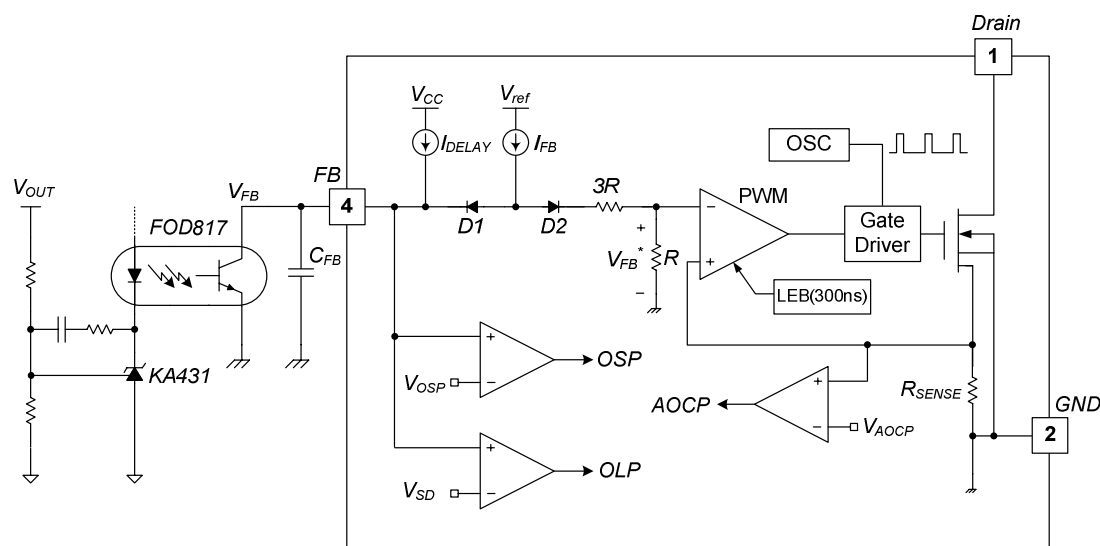

Figure 18. Pulse Width Modulation Circuit
**3. Feedback Control:** This device employs current-mode control, as shown in Figure 18. An opto-coupler (such as the FOD817) and shunt regulator (such as the KA431) are typically used to implement the feedback network. Comparing the feedback voltage with the voltage across the  $R_{SENSE}$  resistor makes it possible to control the switching duty cycle. When the reference pin voltage of the shunt regulator exceeds the internal reference voltage of 2.5V, the opto-coupler LED current increases, pulling down the feedback voltage and reducing drain current. This typically occurs when the input voltage is increased or the output load is decreased.
**3.1 Pulse-by-Pulse Current Limit:** Because current-mode control is employed, the peak current through the SenseFET is limited by the inverting input of PWM comparator ( $V_{FB}^*$ ), as shown in Figure 18. Assuming that the  $210\mu A$  current source flows only through the internal resistor ( $3R + R = 11.6k\Omega$ ), the cathode voltage of diode D2 is about 2.4V. Since D1 is blocked when the feedback voltage ( $V_{FB}$ ) exceeds 2.4V, the maximum voltage of the cathode of D2 is clamped at this voltage. Therefore, the peak value of the current through the SenseFET is limited.